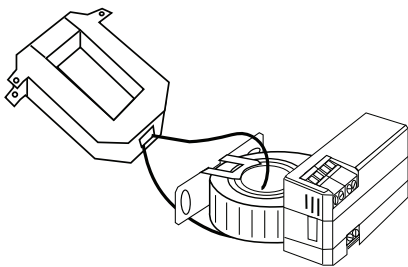

Figure 4: CSS with CT Transformer
Use a 5 A Current Transformer (CT) to reduce the current passing through the CSS as shown in Figure 4. Run the current transformer secondary wire through the sensing hole. Terminate the two secondary wires of the 5 A Current Transformer to each other, and then install the 5 A current transformer in the conductor being monitored.